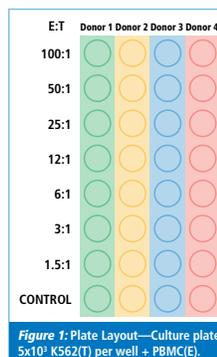

Figure 1: Plate Layout—Culture plate 5x10³ K562(T) per well + PBMC(E).
- a) Add 100µl of Effector Cells (**2-d**) to Row A in a 96-well, round-bottom culture plate (see **Figure 1** on reverse for sample Plate Layout).
- b) Prepare serial dilutions of Effector PBMC (100µl per well) down 6 more wells in the culture plate (**Figure 1**). **Note:** To save unused portions of the culture plate for future assays, use the adhesive plate sealing sheets (included) and store in sterile conditions.